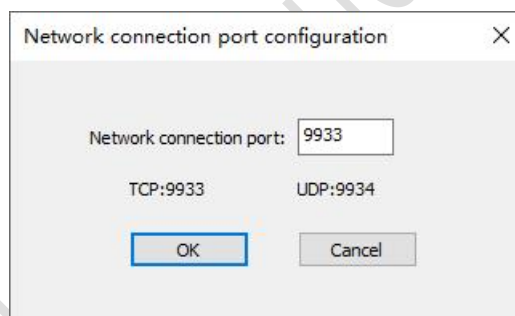

Fig.3-7 Network connection port configuration
- ① It is recommended that you select **Remote** when the sender is placed far from the LED screen, and the control PC cannot physically connect to the sender via a cable.
- ② For calibration with 2 PCs, the PCs should share the same LAN (connected via WIFI or network cable), and the firewalls of them should be turned off. The 2 PCs should install Calibration Pro of the same version.
- ③ The PC for display capture will automatically launch CaliPro Server and should be connected to the control PC.
- ④ The **Control PC port** is 9933 by default. If the default port has been occupied by other devices, you will need to set a port number for both the control PC and the PC for display capture. To modify the port number, right-click the software interface or minimize the interface in the control PC, and then access the network setup window to enter a new port number. See Figure 3-7.